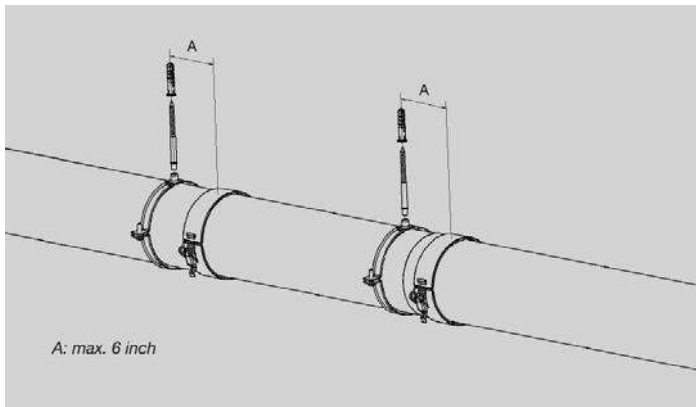

Figure 4.5 Bracket fixing
6. A bracket must be fixed as follows, see also figure 4.5:
- 6b. If the section is installed in a non vertical part of the system, a bracket must be fixed at a maximum distance of 15 cm (6 inch) from the female end, see figure 4.5, dimension A.